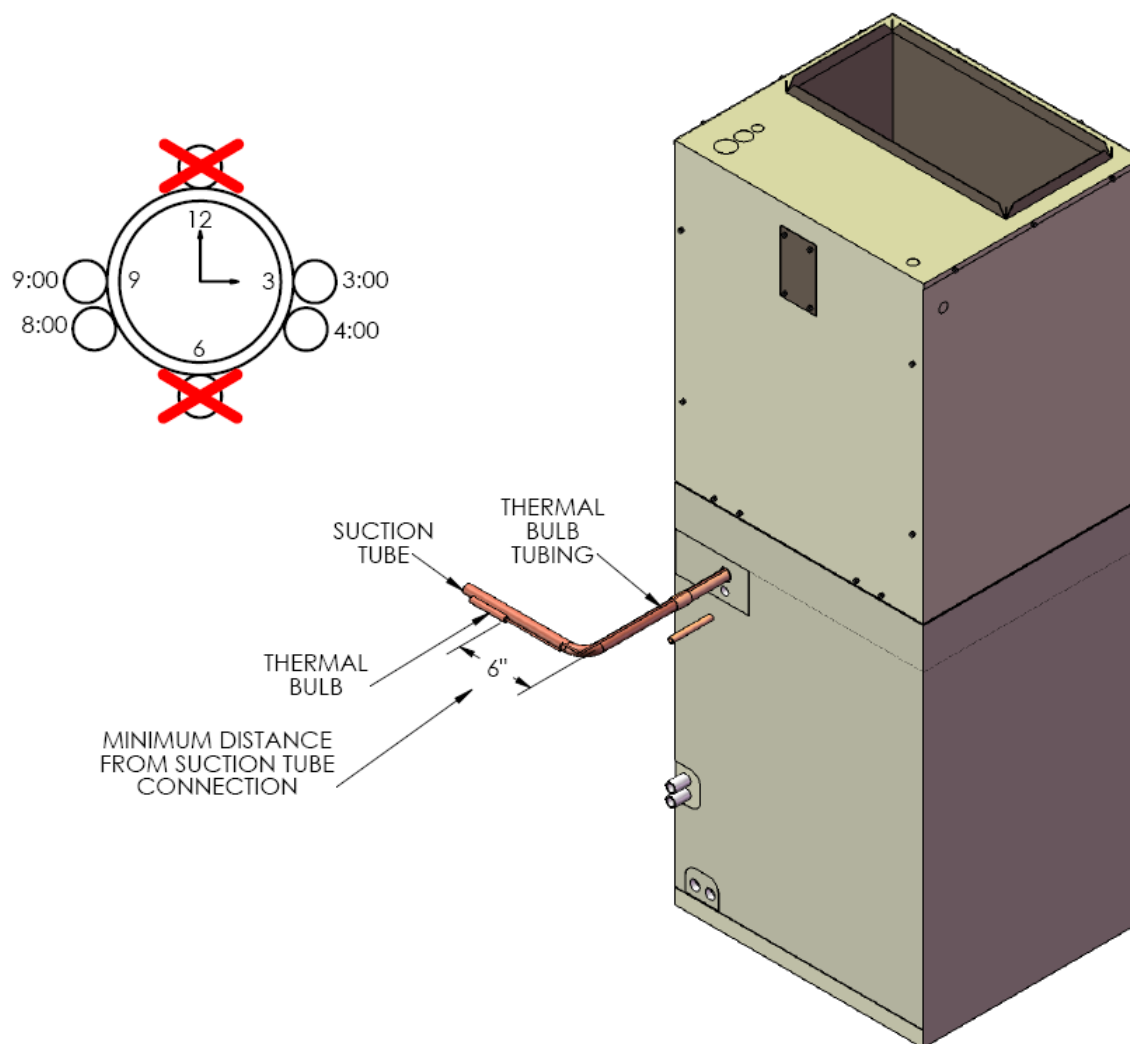
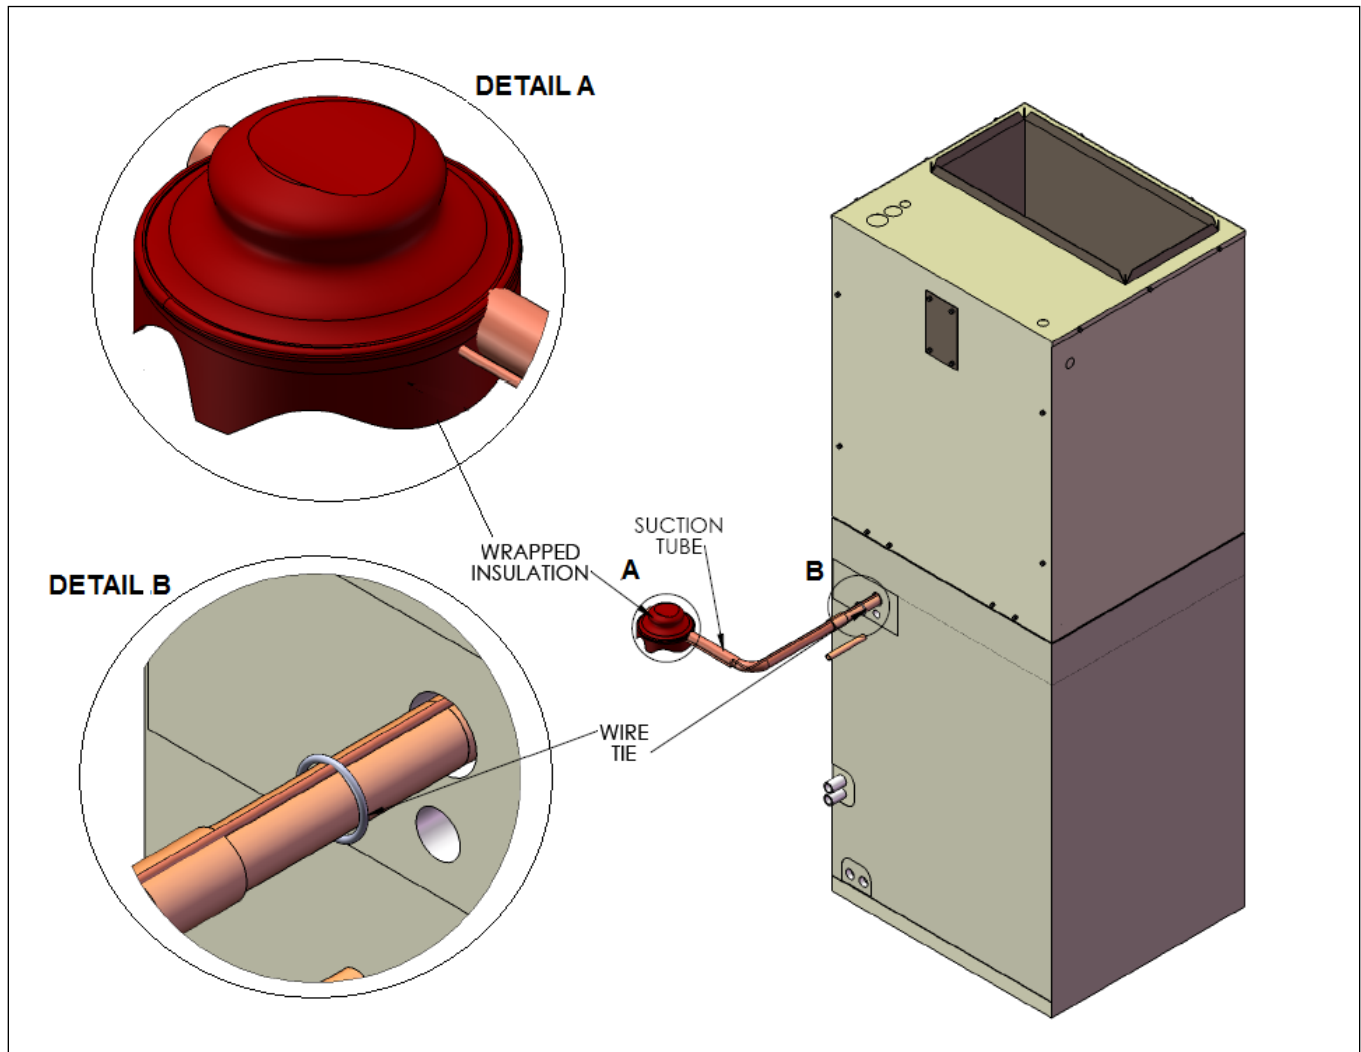

Figure 10. Positioning the Thermal Bulb
Figure 12. Insulate the Thermal Bulb and Suction Line
Figure 10 illustrates locating the thermal bulb on the suction line extension. It shall be located at least 6 inches downstream of any fitting or bend in the suction tube extension, and at the 3:00, 4:00, 8:00 or 9:00 o'clock positions.
After the thermal bulb is secured with the clamp, wrap the provided insulation around the thermal bulb and suction tube extension to isolate the thermal bulb from the surrounding air as shown in Figure 12. Apply the wire tie to hold the thermal bulb tube secure against the suction line as shown in Figure 12.
1. The thermal bulb on the suction line extension must be re-located so the thermal bulb is on a HORIZONTAL section of the suction line extension, as shown in Figures 10 and 11, with the thermal bulb located in the 3:00, 4:00, 8:00 or 9:00 o'clock positions as illustrated. Wrap the thermal bulb with the insulation as shown in Figure 12.